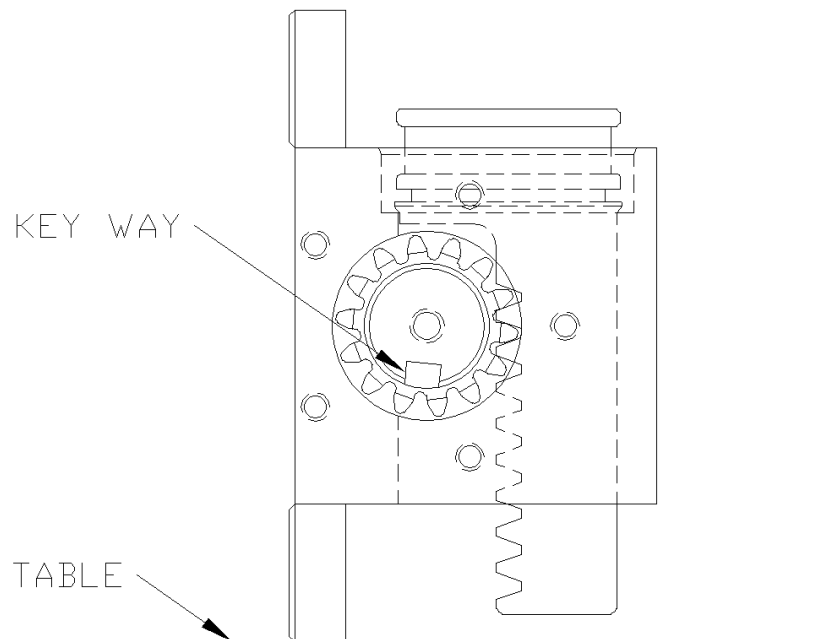

figure A-7
7. Check the position of the racks in the pinion by making sure both racks seat against the actuator body at the same time and also when the racks are seated against the body, the key ways on the pinion shaft should be facing down toward the table and very slightly back toward the mounting flanges on the actuator body as shown in figure A-7.